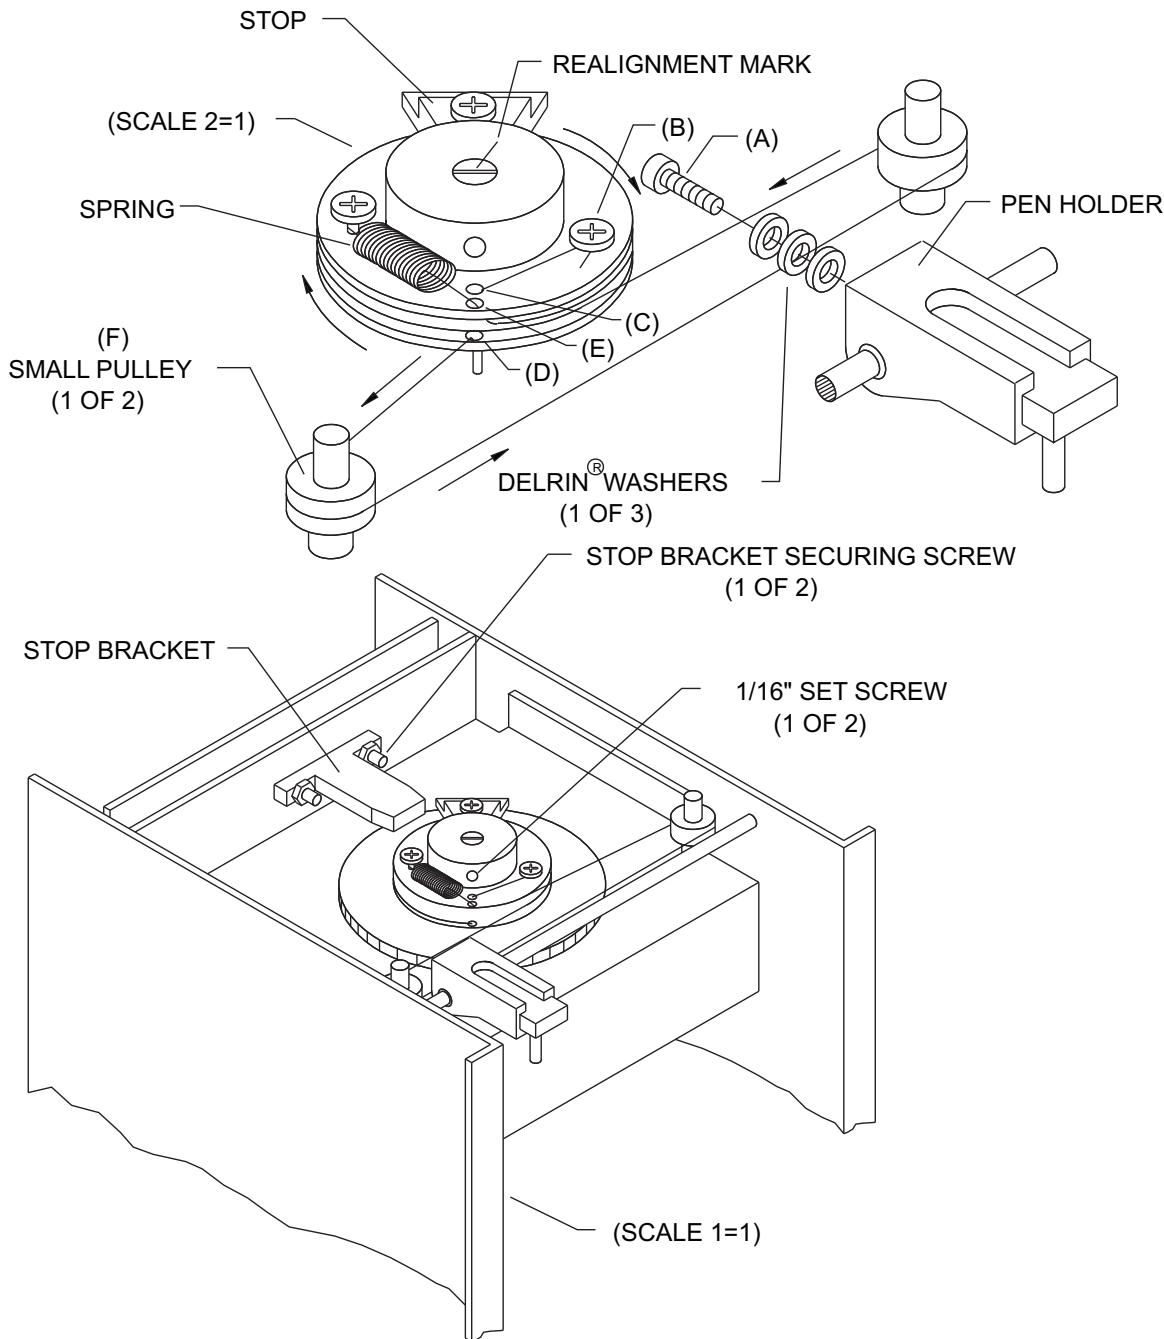

Figure 5-2 Recorder String Routing
Read through the following instructions and refer to Figure 5-2 to replace the recorder drive string.
4. Loosen the pen holder screw (marked (A) in Figure 5-2), remove it, and take off the first two of the three washers.
6. Secure one end of the new drive string under the screw marked (B).
7. Route the string through hole (C) and up through hole (D).
9. Route the string 180 degrees counterclockwise (note arrows in Figure 5-2) around the small pulley marked (F). Then route the string through a washer and around the second pulley.
10. Make one revolution clockwise around the hub and route it up through hole (E) and secure it to the spring. Leave enough tension so that the spring extends about 1 millimeter.